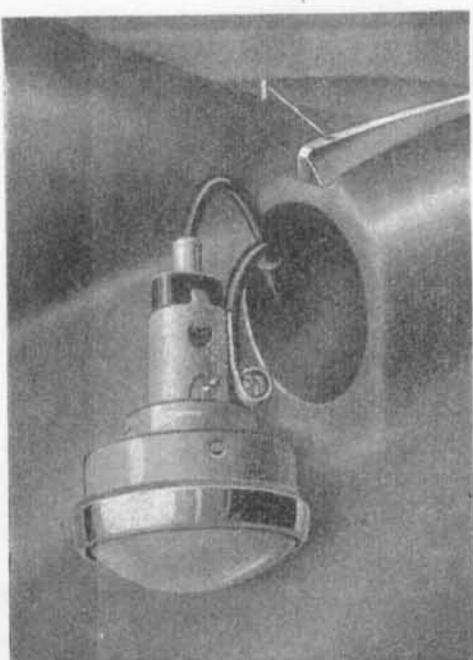

Fig. 48.—SIDE LAMP.
The method of changing a lamp bulb is illustrated in Figs. 48 and 49.
The locking screw, (1) should be removed, and the lamp unit drawn bodily forward as in Fig. 48.